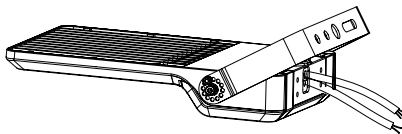

FIG.14
- 1 Begin by installing the two larger screws as illustrated in (Figure 14).